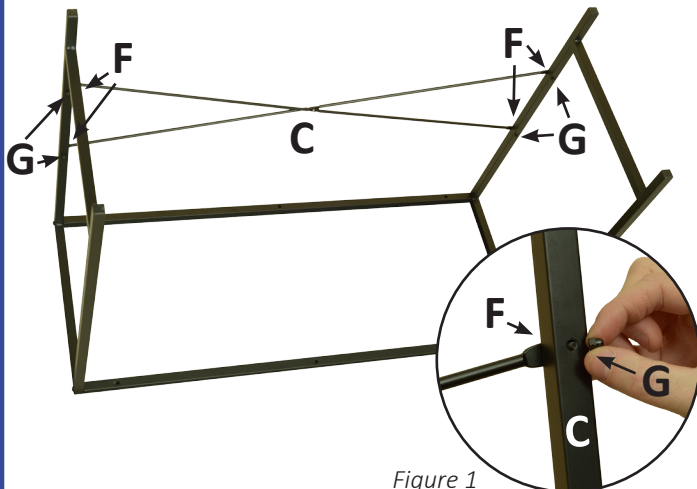

Figure 1
Attach **X-Wire (C)** to assembled frame by using both **Small Screws (F)** and **Screw Caps (G)**. Align **X-Wire (C)** with preexisting holes on the outside of your assembled frame, insert **Small Screws (F)** through the **X-Wire (C)** and attach **Screw Caps (G)** from the opposite side of the frame. See *Figure 1*.